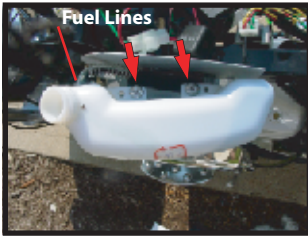

Fig. 4
2. Keep gas tank supported to avoid spillage and remove screws (Fig. 4)